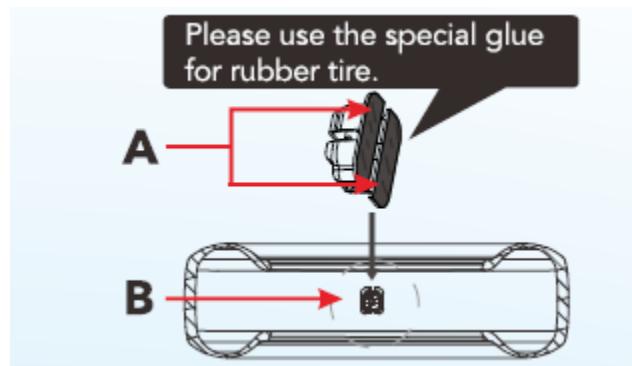

Fig. 4.16
5. Use the special glue to apply on sensor A side and put it onto the exact position where the tire wall has been fully polished. The sensor could be not stick to the tire wall for the second time during installation (fig. 4.16).